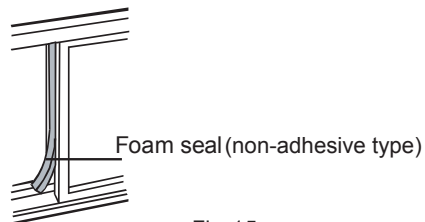

Fig. 15
5. Cut the foam seal (non-adhesive type) to an appropriate length and seal the open gap between the closed side window sash and outer window sash. See Fig.15.